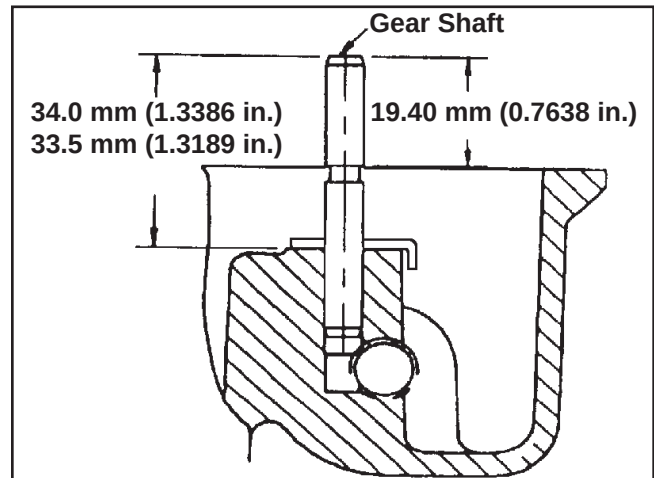

Figure 9-13. Governor Shaft Press Depth.
3. Carefully inspect the governor gear shaft and replace it only if it is damaged. After removing the damaged shaft, press or lightly tap the replacement shaft into the closure plate to the depth shown in Figure 9-13.